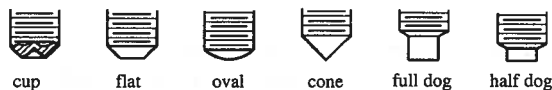

Figure 10. *Set screws*
A set screw (Figure 10) is used to hold a part such as a collar, pulley or crank in a fixed position on a rotating shaft. The screw is tightened until its pointed or cupped end digs into the metal of the shaft. Every time the screw is repositioned it makes a permanent mark, usually a pit or part of a circle. Always ensure that the screw is backed off enough to clear the shaft before moving the part it secures. Otherwise, the tip of the screw will leave deep scratches or smear the metal of the shaft. Document the exact location and position of the part before loosening the set screw. Accurate reassembly could depend on these details later.
7. *Points* of set screws are as follows: cup, flat, oval, cone, full dog and half dog (Figure 10).